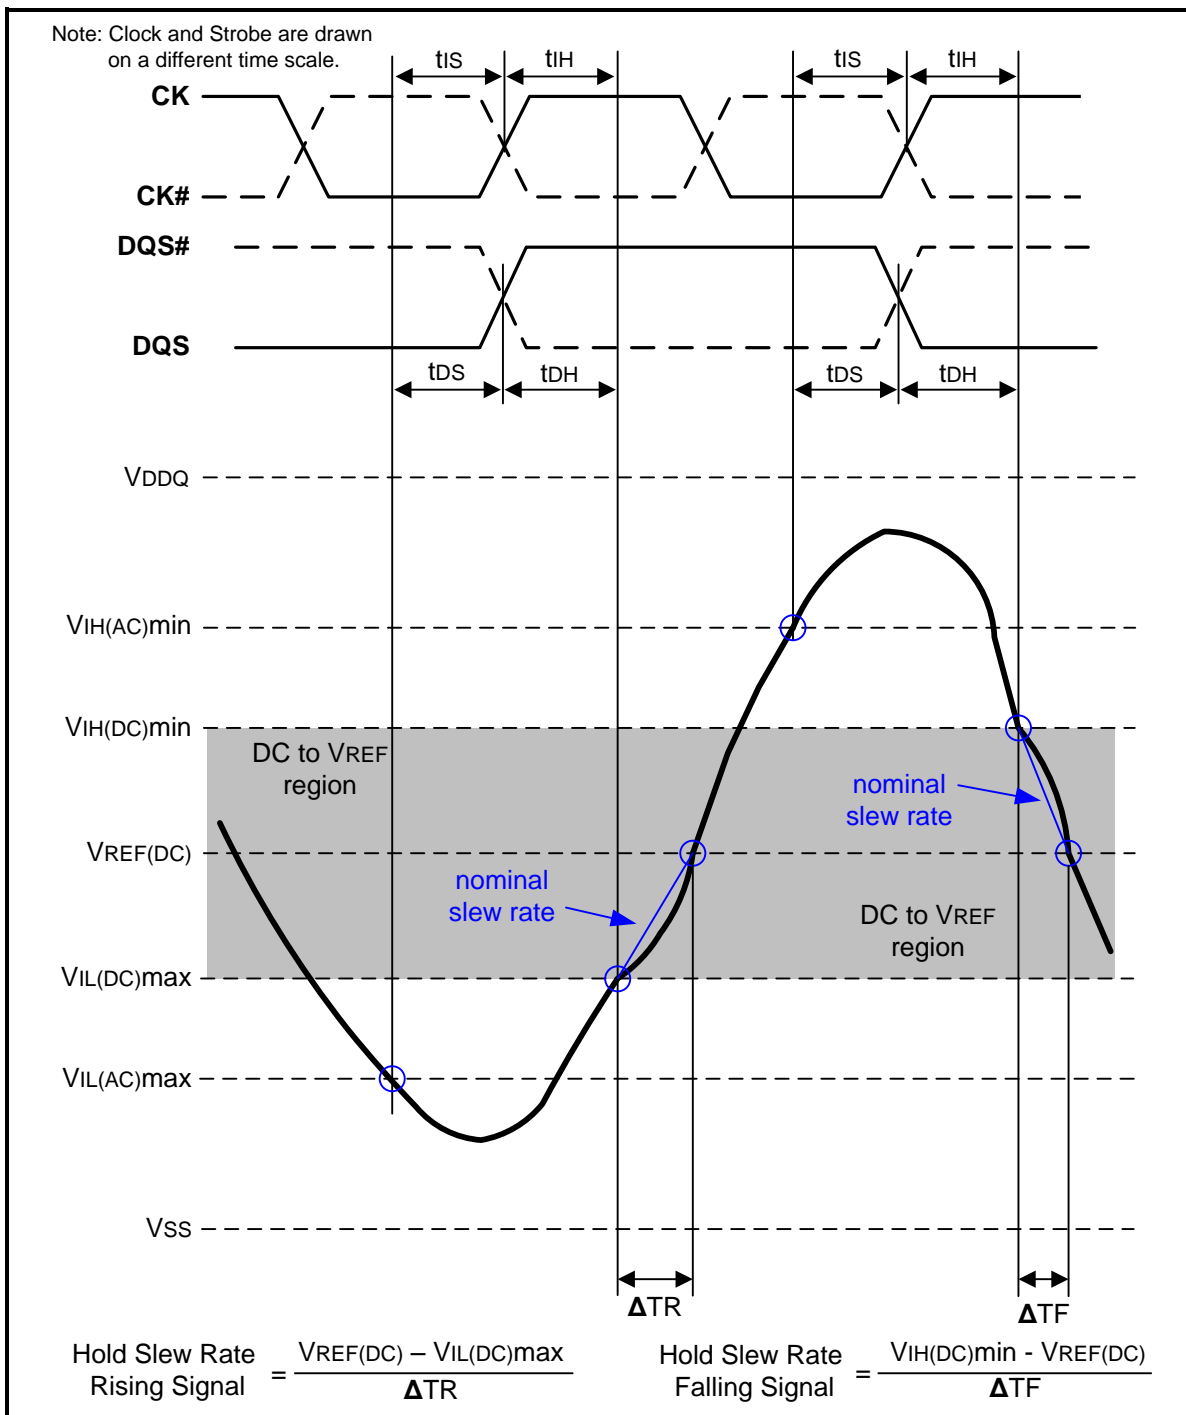
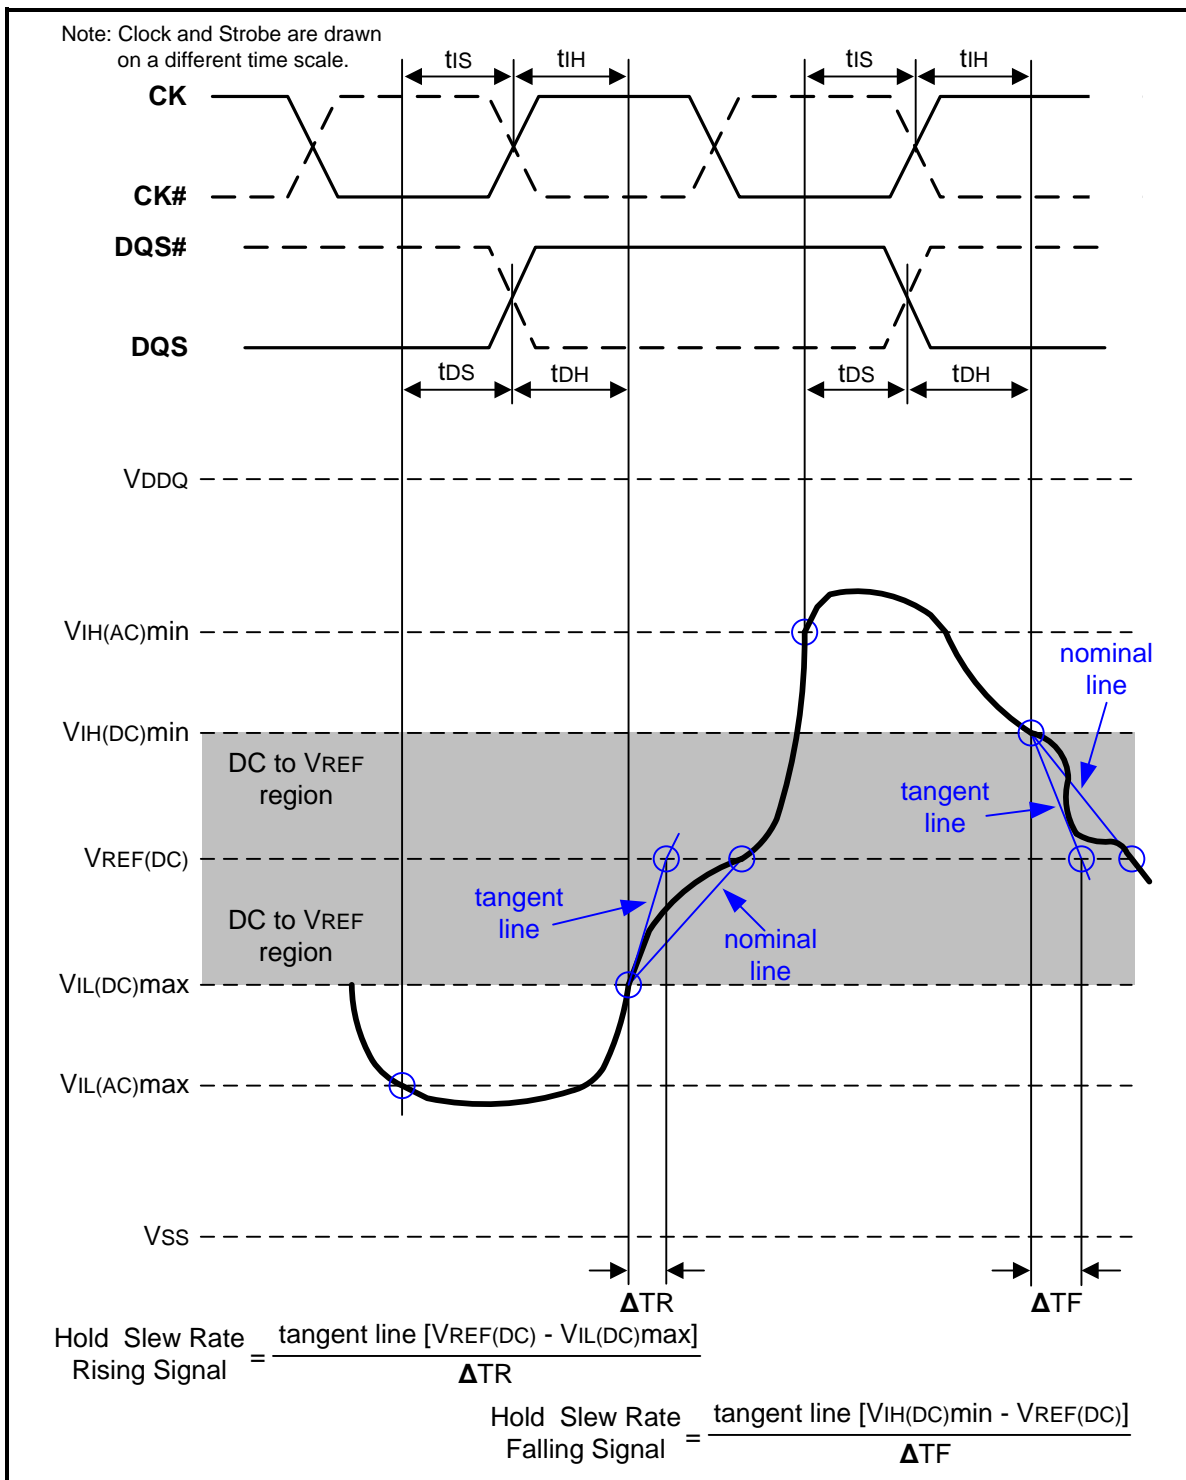

Figure 108 – Illustration of nominal slew rate for hold time t_{DH} (for DQ with respect to strobe) and t_{IH} (for ADD/CMD with respect to clock)
Figure 110 – Illustration of tangent line for hold time t_{DH} (for DQ with respect to strobe) and t_{IH} (for ADD/CMD with respect to clock)
Hold (t_{IH}) nominal slew rate for a rising signal is defined as the slew rate between the last crossing of $V_{IL}(\text{DC})_{\text{max}}$ and the first crossing of $V_{REF}(\text{DC})$. Hold (t_{IH}) nominal slew rate for a falling signal is defined as the slew rate between the last crossing of $V_{IH}(\text{DC})_{\text{min}}$ and the first crossing of $V_{REF}(\text{DC})$. If the actual signal is always later than the nominal slew rate line between shaded 'DC to VREF(DC) region', use nominal slew rate for derating value (see Figure 108). If the actual signal is earlier than the nominal slew rate line anywhere between shaded 'DC to VREF(DC) region', the slew rate of a tangent line to the actual signal from the DC level to VREF(DC) level is used for derating value (see Figure 110).
Hold (tDH) nominal slew rate for a rising signal is defined as the slew rate between the last crossing of VIL(DC)max and the first crossing of VREF(DC). Hold (tDH) nominal slew rate for a falling signal is defined as the slew rate between the last crossing of VIH(DC)min and the first crossing of VREF(DC) (see Figure 108). If the actual signal is always later than the nominal slew rate line between shaded 'DC level to VREF(DC) region', use nominal slew rate for derating value. If the actual signal is earlier than the nominal slew rate line anywhere between shaded 'DC to VREF(DC) region', the slew rate of a tangent line to the actual signal from the DC level to VREF(DC) level is used for derating value (see Figure 110).